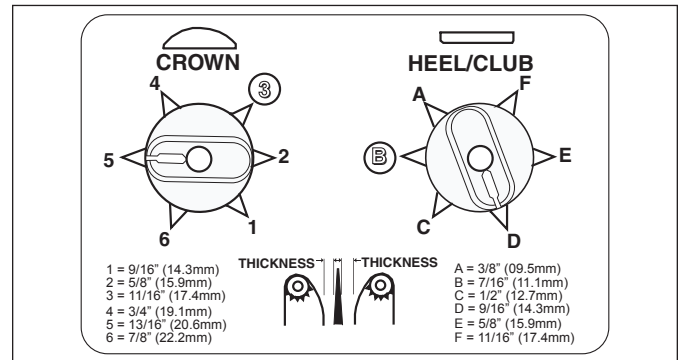
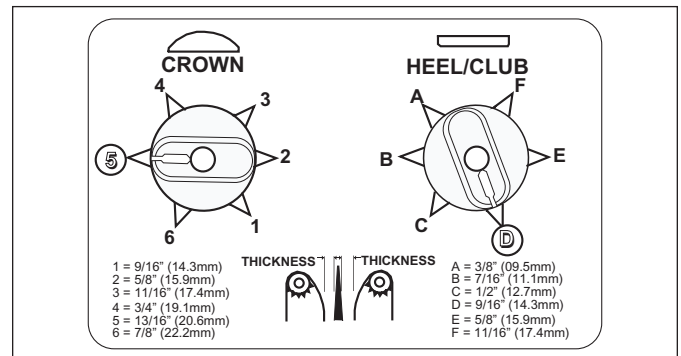

Figure 2. Bun Thickness Adjustment Controls for Mfg. No.: 9210606 and 9210616
Figure 3. Bun Thickness Adjustment Controls for Mfg. No.: 9210607, 608, 613, 624, & 626
1. Set the Bun Thickness Adjustment Controls (Figure 2 and Figure 3) according to the following table: